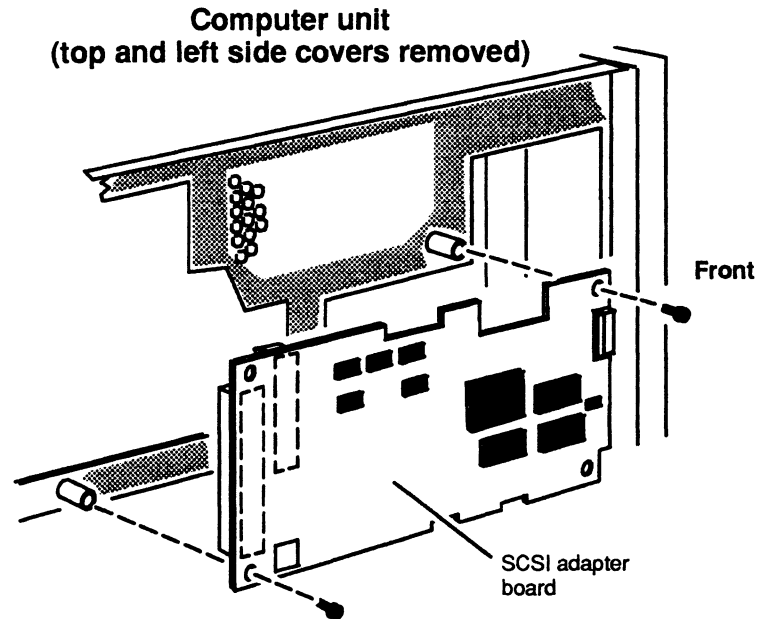

Figure 2-17 Removing or Installing the Screws that Attach the SCSI Adapter Board to the Computer Unit
3. Remove the two screws securing the SCSI adapter board to the front of the left side of the computer unit as shown in Figure 2-17.
1. Attach the SCSI adapter board to the computer unit with the two screws as shown in Figure 2-17.